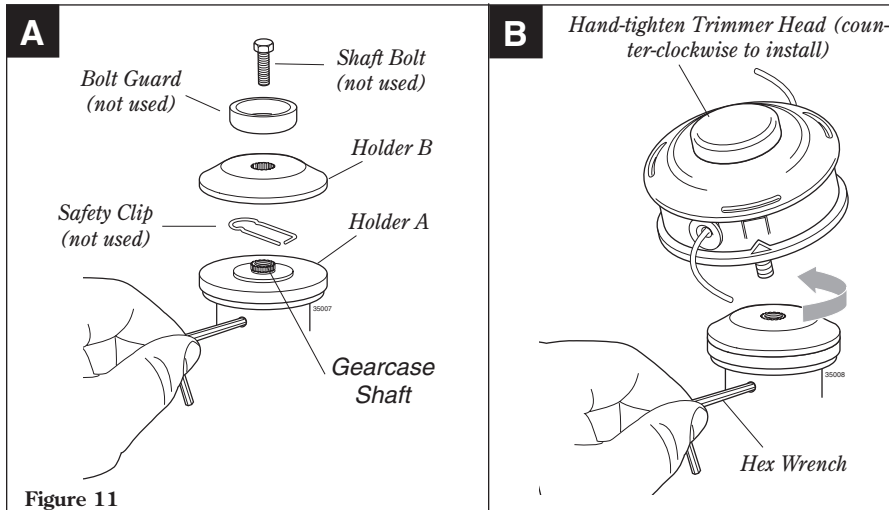

Figure 11
1. With the gearcase output shaft facing up, rotate the gearshaft and holder A until the hole in holder A aligns with the matching hole in the gearcase flange, and then lock the holder to the gearcase by inserting the long end of the hex wrench through both holes. See Figure 11-A.
2. Using the combination spark plug/ screwdriver wrench, remove the shaft bolt, bolt guard, holder B and the safety clip. (The bolt guard, shaft bolt and safety clip are not used with a trimmer head). See Figure 11-A.
4. Using the hex wrench to secure Holder A, install and hand-tighten the trimmer head (counter-clockwise to install). See Figure 11-B.